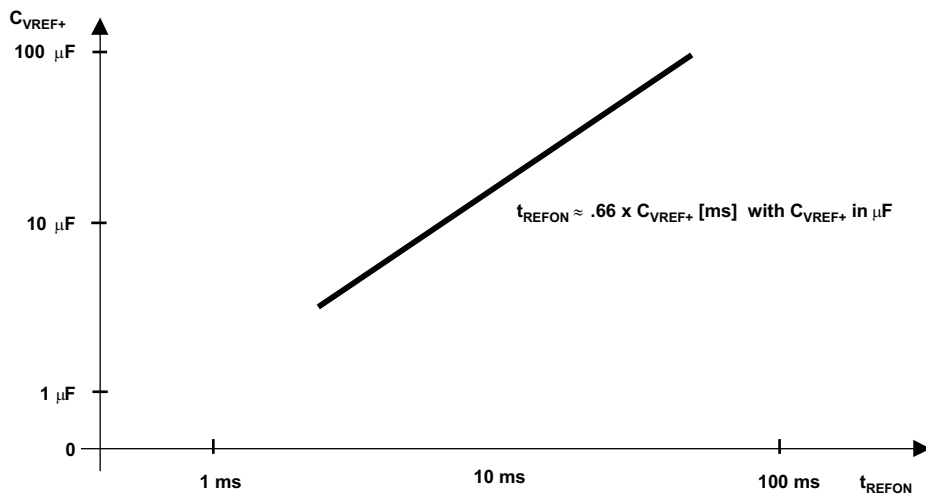

Figure 5-23. Typical Settling Time of Internal Reference tREFON vs External Capacitor on VREF+
| t REFON     | Settling time of internal reference voltage (see Figure 5-23) (2)I VREF+ = 0.5 mA, C VREF+ = 10 μF,V REF+ = 1.5 V, V AVCC = 2.2 V |                              |      |     | 17   | ms     |